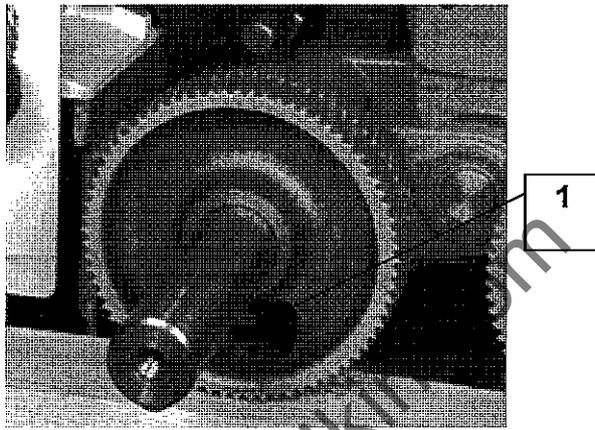

Figure 7.3.6
7.3.6 Replace Shaft-Mounted Top Feed Roll (Figure 7.3.6)
- 1 Slacken set screw (1).
- 4 Position the feed roll to suit the product width and tighten set screw (1).